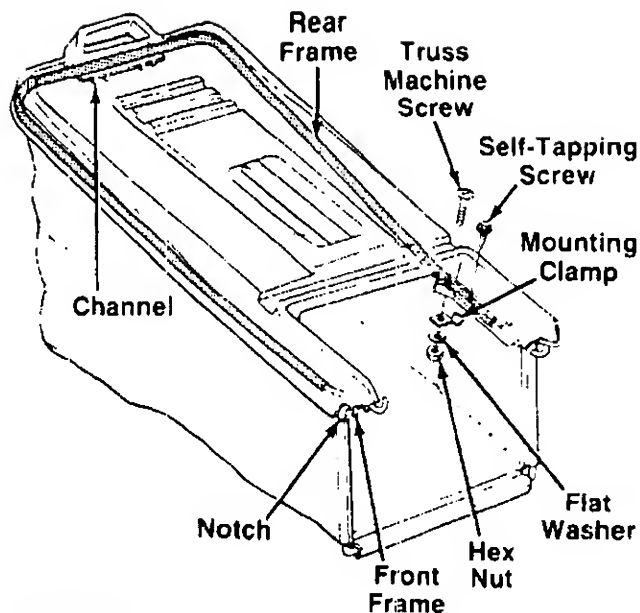

FIGURE 18.
4. Attach the hardtop cover to the grass catcher as follows. See figure 18.
- Attach cover to frame using self-tapping screws as shown in figure 18.